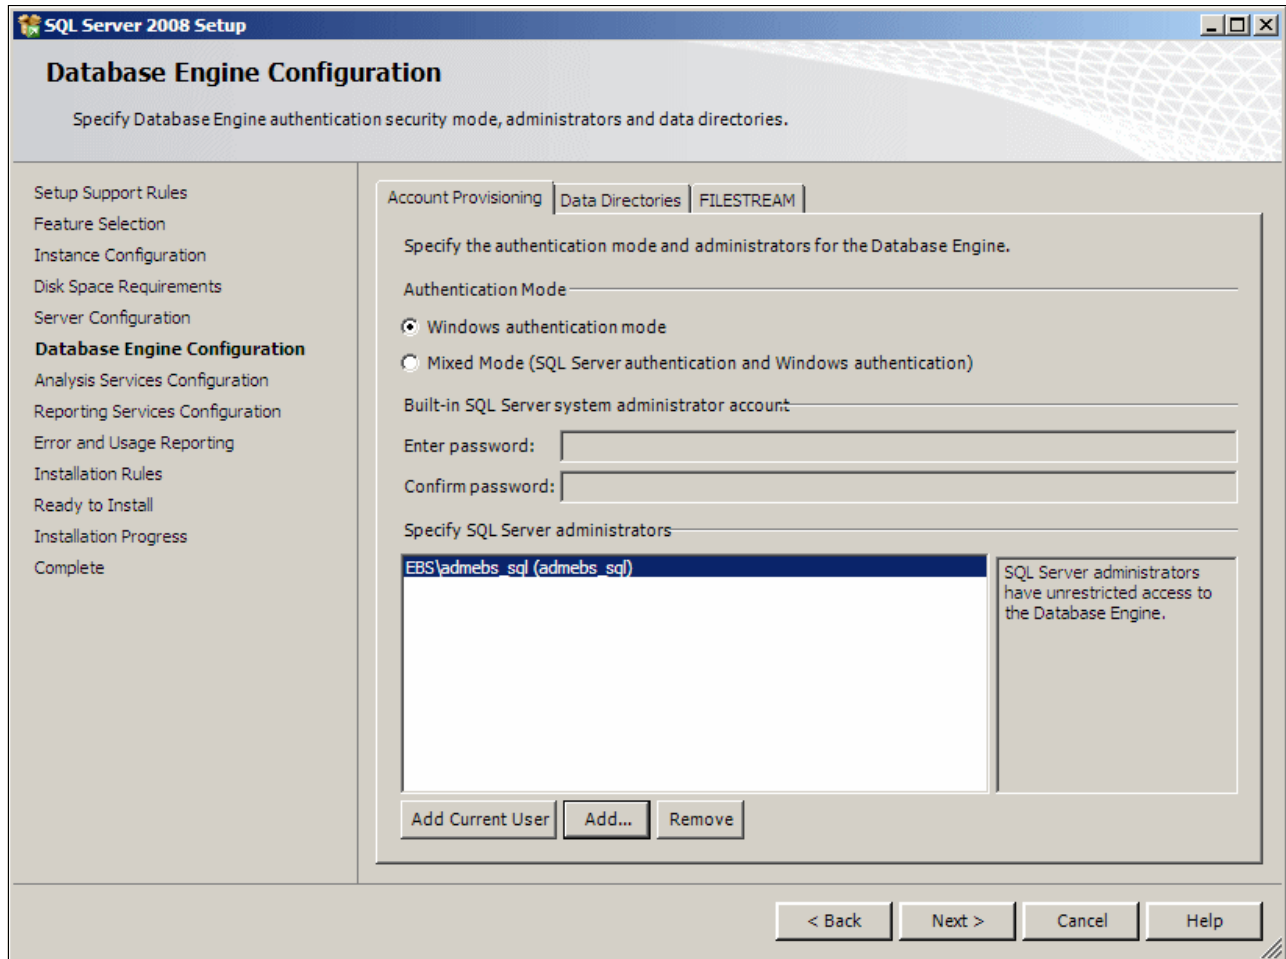

Figure 6-27 Database Engine Configuration window
10. The Account Provisioning tab of the “Database Engine Configuration” panel (Figure 6-27) displays the available authentication modes to gain access to the database engine. By default, the **Windows authentication mode** radio button is selected. We accepted the default.